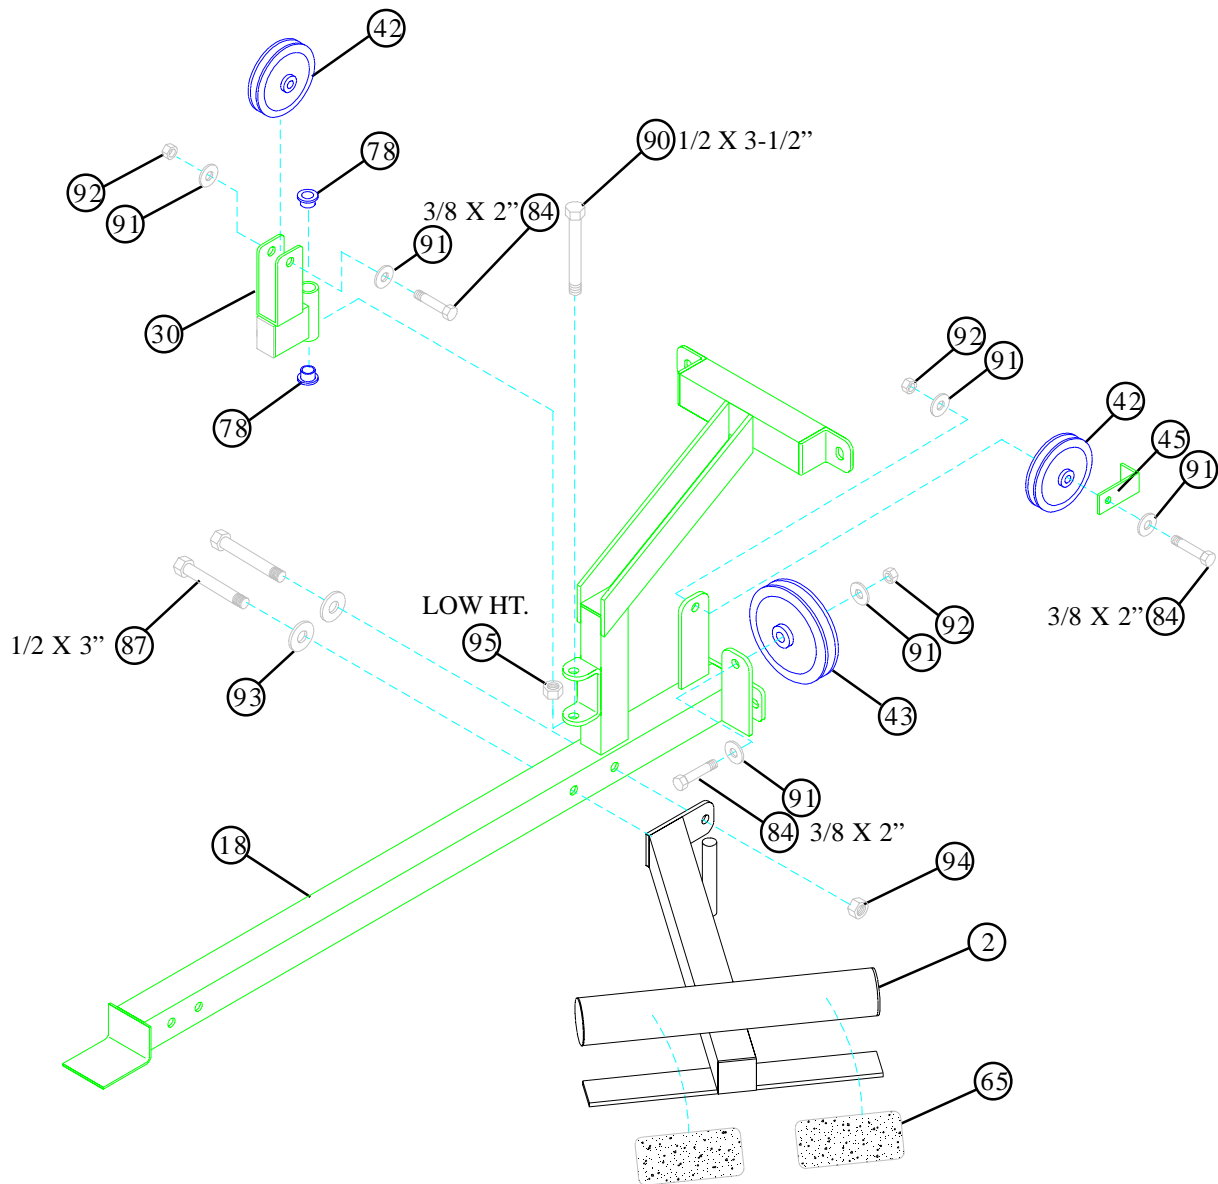

FIGURE 1
- Insert two 1/2" FLANGE BEARINGS (78) into the SWIVEL PULLEY BRACKET (30) as in FIGURE 1.
- Assemble the SWIVEL PULLEY BRACKET (30) to the PRESS BASE (18) using one 1/2 X 3-1/2" BOLT (90) and one 1/2" LOW HEIGHT LOCK NUT (95). (**TIGHTEN THE CONNECTION ENOUGH TO REMOVE THE PLAY, YET ALLOWING THE SWIVEL BRACKET TO ROTATE FREELY.**)
- **SECURELY** assemble one 3-1/2" PULLEY (42) to the SWIVEL PULLEY BRACKET (30) using one 3/8 X 2" BOLT (84), two 3/8" WASHERS (91), and one 3/8" LOCK NUT (92). See FIGURE 1.
- **SECURELY** assemble one 3-1/2" PULLEY (42) to the rear horizontal flat of the PRESS BASE (18) using one 3/8 X 2" BOLT (84), one 2-3/8" CABLE RETAINING CLIP (45), two 3/8" WASHERS (91), and one 3/8" LOCK NUT (92) as shown in FIGURE 1. (**NOTE: 2-3/8" CABLE RETAINING CLIP (45) should face as shown in FIGURE 1.**)
- **SECURELY** assemble one 4-1/2" PULLEY (43) to the lower horizontal flat of the PRESS BASE (18) using one 3/8 X 2" BOLT (84), two 3/8" WASHERS (91), and one 3/8" LOCK NUT (92) as shown in FIGURE 1. (**NOTE: Make sure there is no contact between the two pulleys.**)
- Attach two 5-1/2 X 2-1/2" NON SKID STRIPS (65) to the LOW ROW/CALF RAISE (2) approximately where shown in FIGURE 1.
- **SECURELY** assemble the LOW ROW/CALF RAISE (2) to the PRESS BASE (18) using two 1/2 X 3" BOLTS (87), two 1/2" WASHERS (93), and one 1/2" LOCK NUT (94).